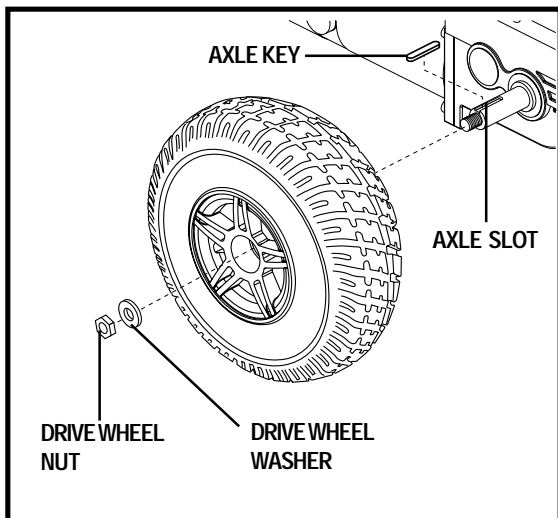

Figure 24. Jet 3 Ultra Drive
4. Remove the drive wheel nut and washer from the axle. See figure 24.